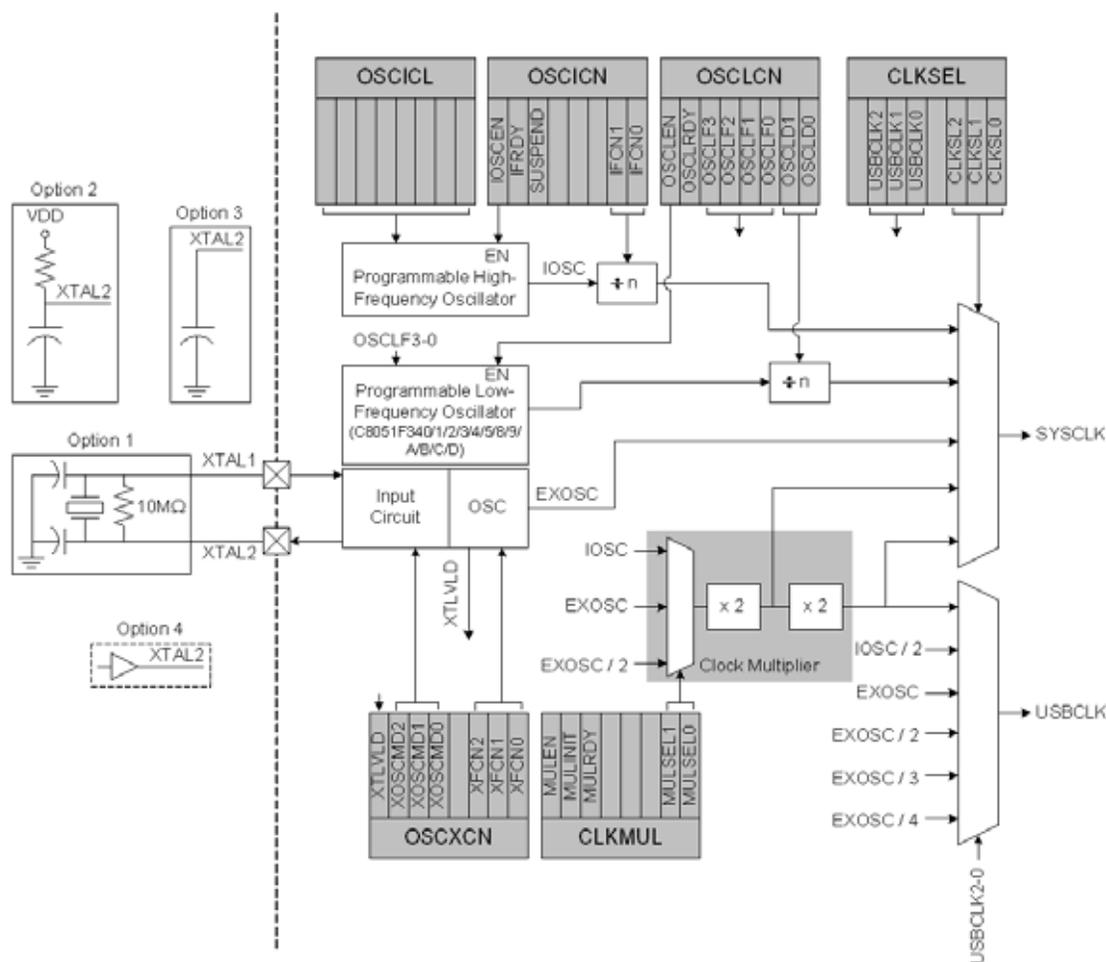

Figure 14.1. Oscillator Diagram
C8051F34x devices include a programmable internal high-frequency oscillator, a programmable internal low-frequency oscillator (C8051F340/1/2/3/4/5/8/9/A/B/C/D), an external oscillator drive circuit, and a 4x Clock Multiplier. The internal high-frequency and low-frequency oscillators can be enabled/disabled and adjusted using the special function registers, as shown in Figure 14.1. The system clock (SYSCLK) can be derived from either of the internal oscillators, the external oscillator circuit, or the 4x Clock Multiplier divided by 2. The USB clock (USBCLK) can be derived from the internal oscillator, external oscillator, or 4x Clock Multiplier. Oscillator electrical specifications are given in Table 14.1.
The external oscillator circuit may drive an external crystal, ceramic resonator, capacitor, or RC network. A CMOS clock may also provide a clock input. For a crystal or ceramic resonator configuration, the crystal/resonator must be wired across the XTAL1 and XTAL2 pins as shown in Option 1 of Figure 14.1. A 10 M $\Omega$  resistor also must be wired across the XTAL1 and XTAL2 pins for the crystal/resonator configuration. In RC, capacitor, or CMOS clock configuration, the clock source should be wired to the XTAL2 pin as shown in Option 2, 3, or 4 of Figure 14.1. The type of external oscillator must be selected in the OSCXCN register, and the frequency control bits (XFCN) must be selected appropriately (see SFR Definition 14.4)
If a crystal or ceramic resonator is used as an external oscillator source for the MCU, the circuit should be configured as shown in Figure 14.1, Option 1. The External Oscillator Frequency Control value (XFCN) should be chosen from the Crystal column of the table in SFR Definition 14.4 (OSCXCN register). For example, a 12 MHz crystal requires an XFCN setting of 111b.
If an RC network is used as an external oscillator source for the MCU, the circuit should be configured as shown in Figure 14.1, Option 2. The capacitor should be no greater than 100 pF; however for very small capacitors, the total capacitance may be dominated by parasitic capacitance in the PCB layout. To determine the required External Oscillator Frequency Control value (XFCN) in the OSCXCN Register, first select the RC network value to produce the desired frequency of oscillation. If the frequency desired is 100 kHz, let R = 246 kΩ and C = 50 pF:
If a capacitor is used as an external oscillator for the MCU, the circuit should be configured as shown in Figure 14.1, Option 3. The capacitor should be no greater than 100 pF; however for very small capacitors, the total capacitance may be dominated by parasitic capacitance in the PCB layout. To determine the required External Oscillator Frequency Control value (XFCN) in the OSCXCN Register, select the capacitor to be used and find the frequency of oscillation from the equations below. Assume  $V_{DD} = 3.0 \text{ V}$  and  $C = 50 \text{ pF}$ :
**CRYSTAL MODE** (Circuit from Figure 14.1, Option 1; XOSCND = 11x)
**RC MODE** (Circuit from Figure 14.1, Option 2; XOSCND = 10x)
**C MODE** (Circuit from Figure 14.1, Option 3; XOSCND = 10x)